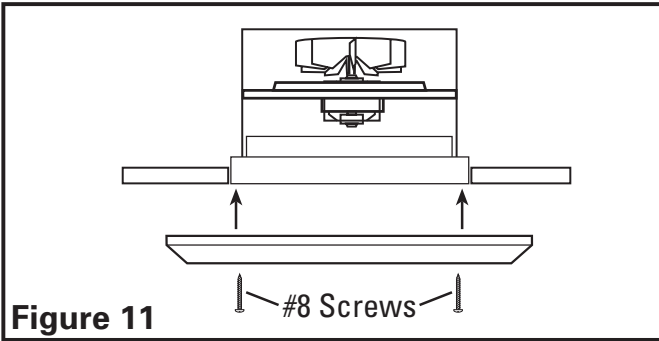

Figure 11
5. Install the grill by lining up the holes in the grill with the holes in the damper frame. Using the remaining #8 screws, secure the grill in place (**Figure 11**).